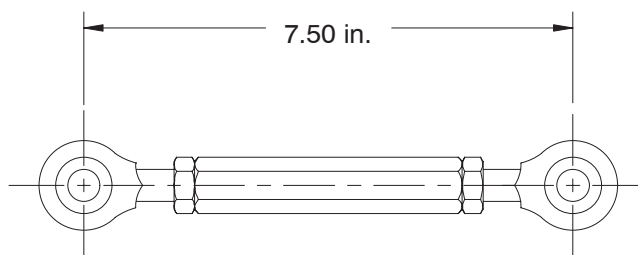

Figure 10
- 12.** Adjust the length of the threaded link to the dimension shown in figure 10 and tighten the jam nuts.